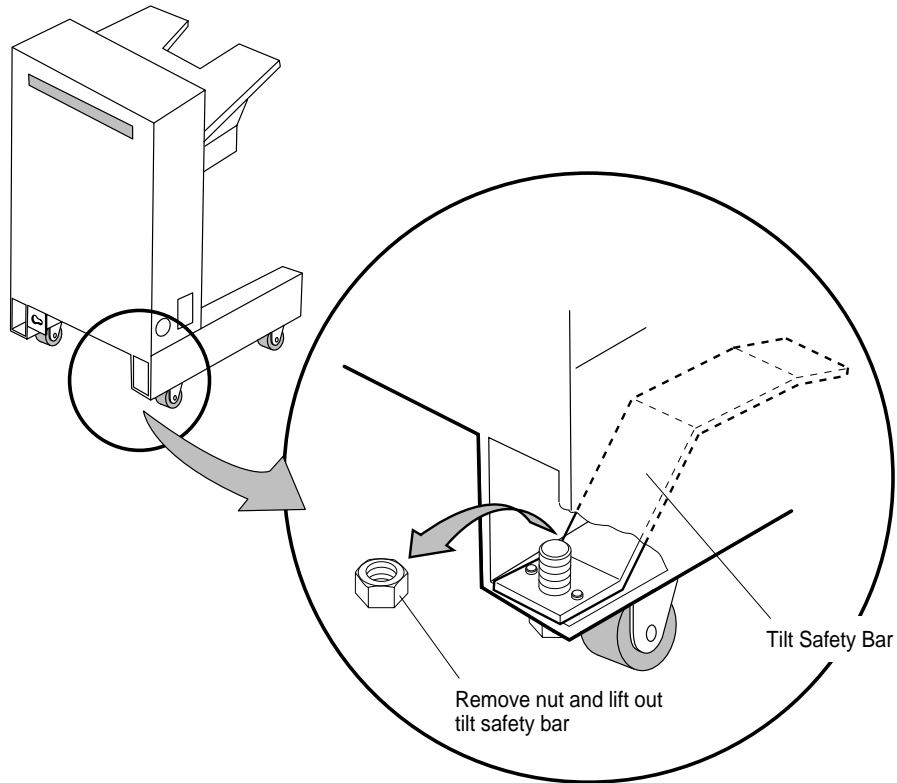

Figure 4-20 Safety Tilt Bar
5. Loosen the nut holding the Safety Tilt Bar from the back of the HCO in the bottom right leg. See Figure 4-20.